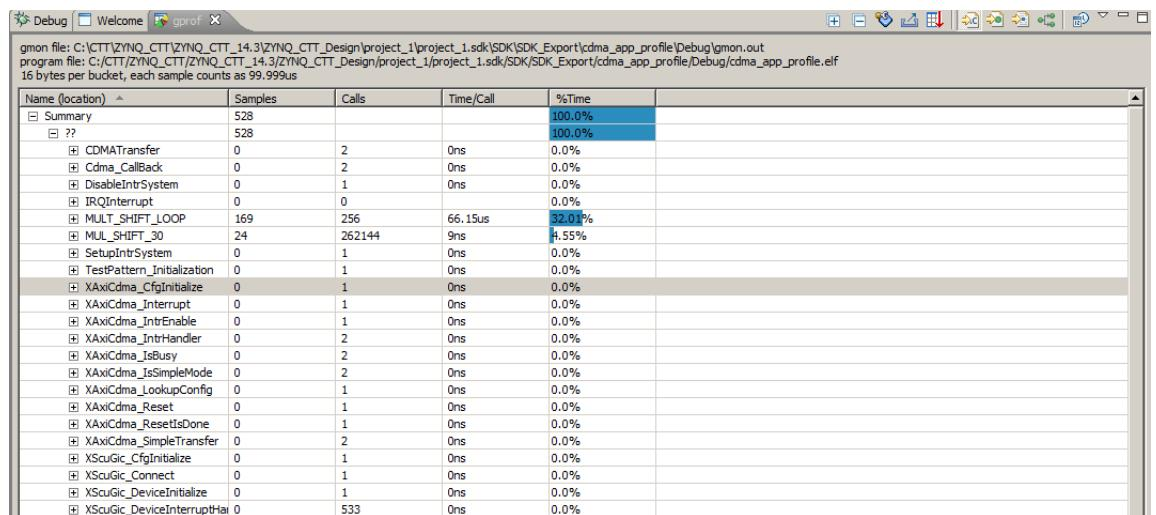

Figure 7-5: Viewing the `gmon.out` File
11. Click **OK** to open the profiling results (`gmon.out`) in a `gprof` tab in the right window area. It will look similar to Figure 7-5.